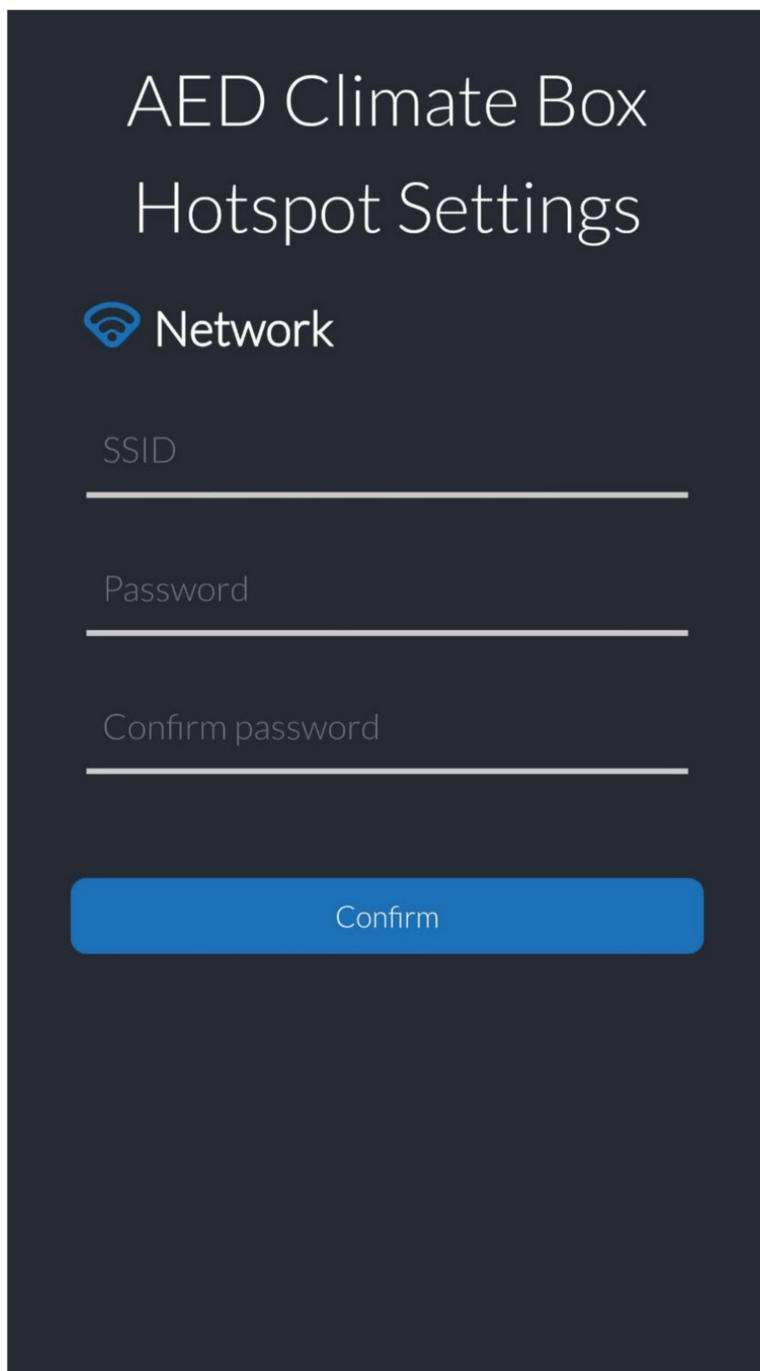

Fig. 1
- c) After loading the configuration page, you will see screen as on *figure 1*.